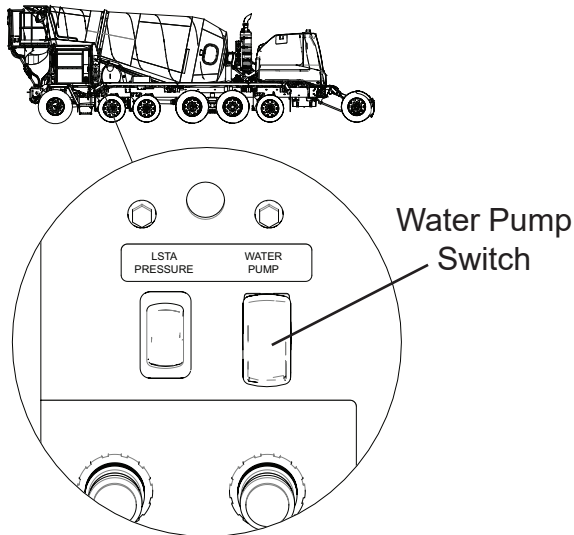

Figure 3
14. Remove water pump rocker switch from left side of front pedestal, see Figure 3.
25. Install rocker switch in front pedestal, see Figure 3.